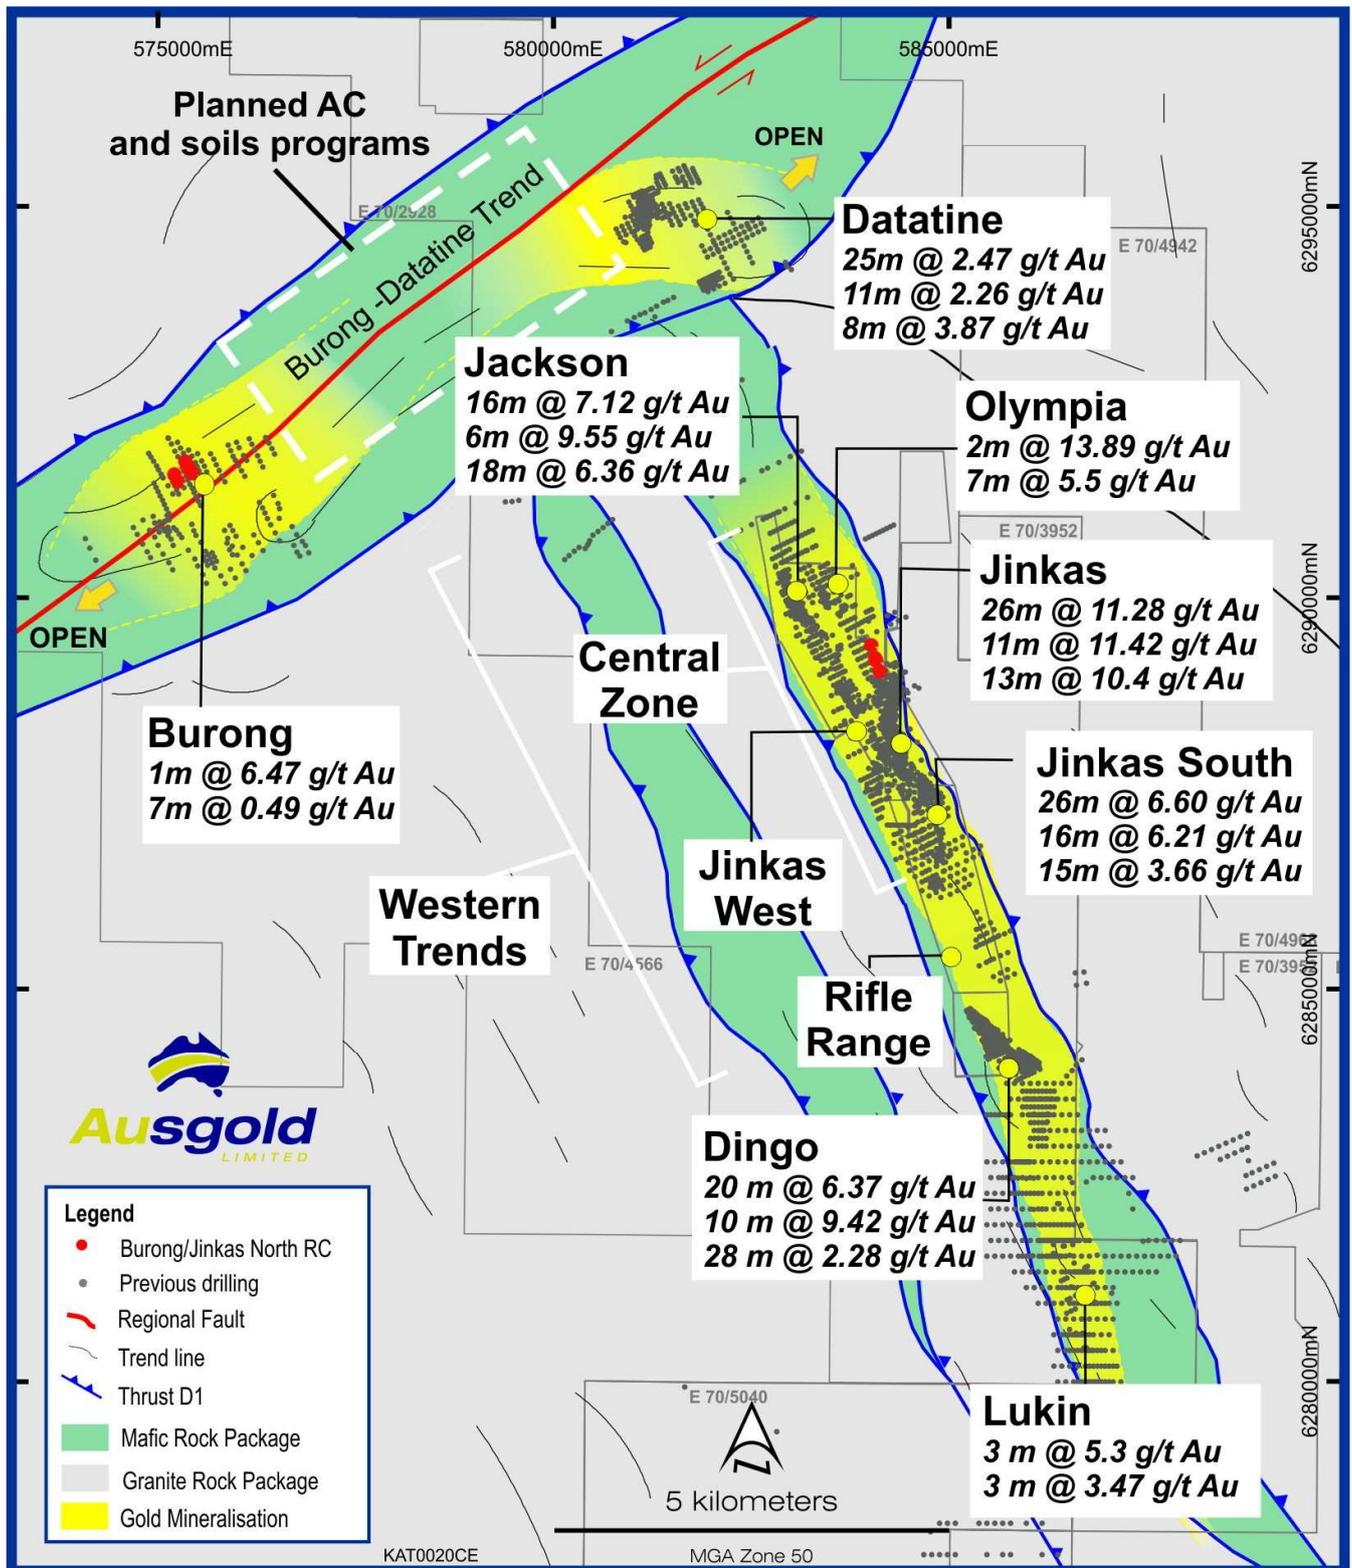

Figure 1 - Location of Recent Drilling at Burong and Jinkas North shown in red
Ausgold Limited (**ASX: AUC**) (“Ausgold” or “the Company”) is pleased to provide an update of exploration activities at its 100%-owned Katanning Gold Project (KGP) in Western Australia’s south-west Yilgarn craton. Nine reconnaissance Reverse Circulation (RC) holes for 1,015m have been drilled to test two areas within the KGP (Figure 1).